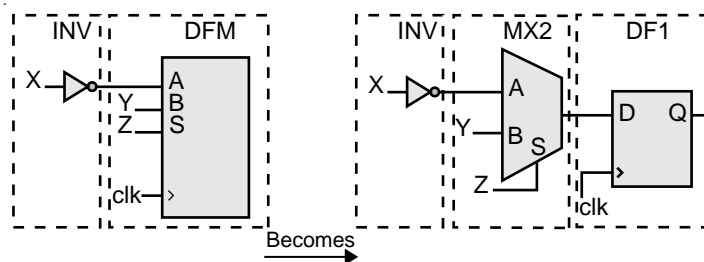

Figure 3-3. Complex Macros Divided
1. It divides complex sequential library macros into basic combinatorial and sequential macros. For example, a D-type flip-flop with 2-input multiplexed data “DFM” remaps into a 2 to 1 multiplexor “MX2” and a D-type flip-flop “DF1.” The total number of logic modules has temporarily increased from one combinatorial and one sequential module to two combinatorial and one sequential module, shown in Figure 3-3.